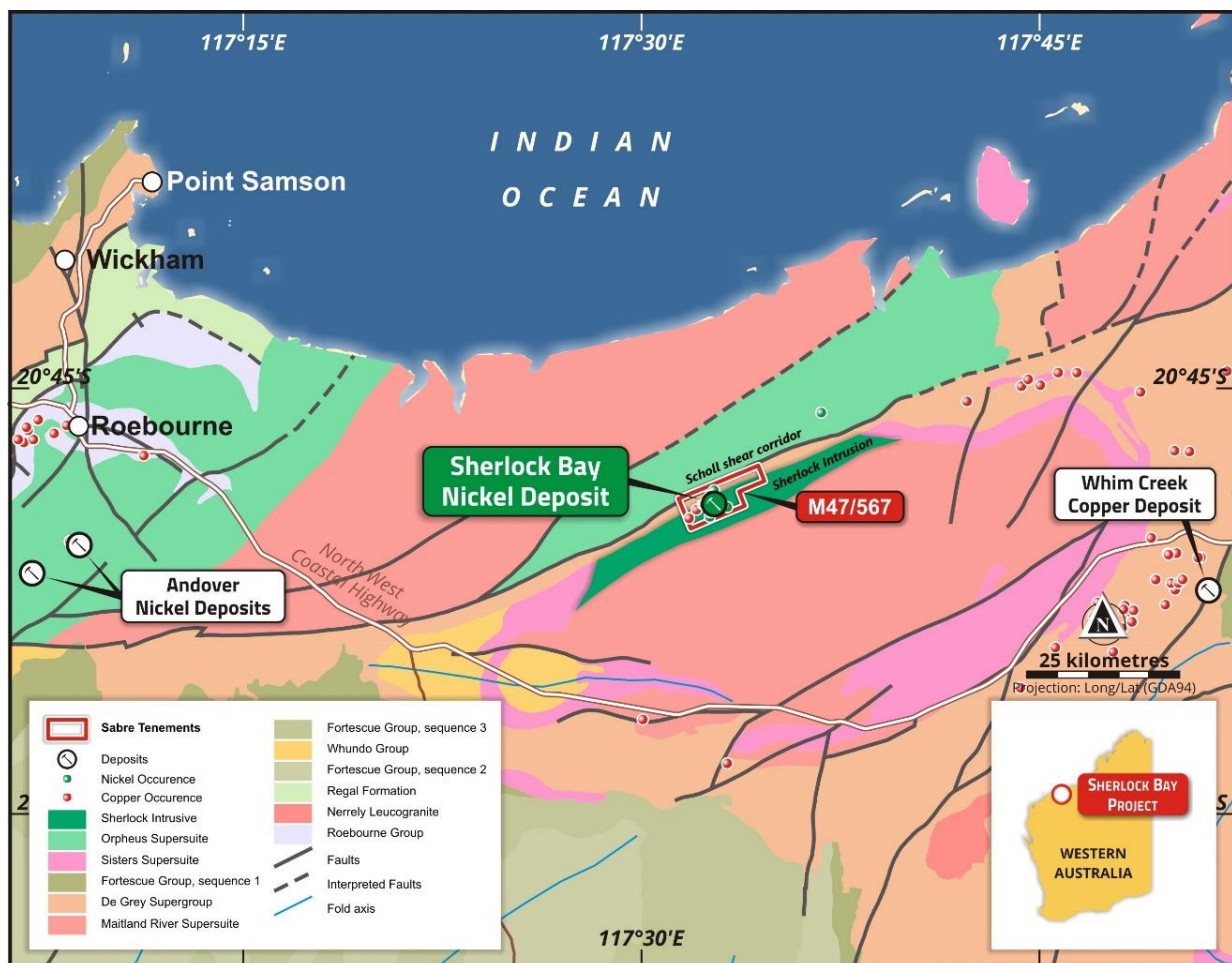
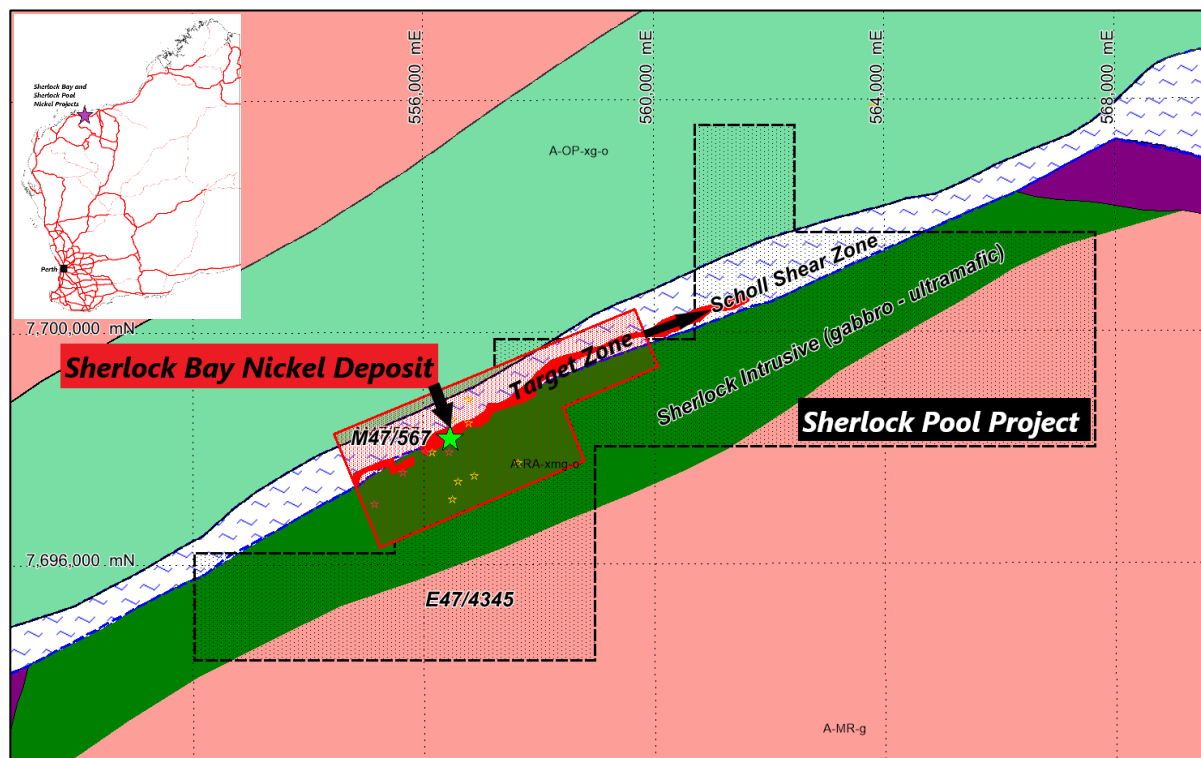

Figure 3: Sherlock Bay Nickel-Copper-Cobalt (sulphide) Project, regional geology and location plan
Figure 5: Sherlock Pool E47/4345 Location and Sherlock Bay Nickel Deposit
Re-establishment of access roads and diamond drillhole site preparation earth works will be carried out this week in preparation for the commencement of the 2,400m diamond drilling program³ to test high-grade nickel sulphide targets at the Sherlock Bay Nickel-Cobalt-Copper Project (“Sherlock Bay” or “the Project”) in Western Australia’s Pilbara region (Figure 3). High rainfall in May and follow-up rains in mid June delayed the expected start date of the program, however the Sherlock Station Manager has notified the Company that access can now be established following a site visit and inspection on Wednesday.
The exploration program will also include down-hole EM (DHEM) surveying to detect massive sulphides associated with either in-hole or off hole conductors – as successfully applied by Azure Minerals Ltd (ASX:AZS) at Andover nickel sulphide deposit, 70km west of Sherlock Bay⁶ (Figure 3).
Previous detailed magnetics and EM surveys at Sherlock Bay identified potential extensions of the Sherlock Bay mineralised horizon along strike from the Sherlock Bay nickel sulphide deposit that continue onto the Sherlock Pool tenement (see location, Figure 5).
The Company's model for the Sherlock Bay nickel sulphide mineralisation is that it is mafic intrusive related, even though the mineralised horizon occurs in the footwall – to the NW of the Sherlock mafic intrusive (see Figure 5). The Andover high-grade nickel sulphide discovery of Azure Minerals Ltd (ASX:AZS) 70km west of Sherlock Bay (Figure 3), that has a recently announced Mineral Resource of **4.6Mt @ 1.11% Ni, 0.47% Cu, 0.05% Co**⁶, is hosted by a similar mafic intrusion to the Sherlock Intrusive.
Previous geophysics, including magnetics, EM and drilling at Sherlock Bay has focussed on the mineralised horizon (MH) that hosts the resources at Sherlock Bay (see Figure 5). Both the MH and the Sherlock Intrusive extend from Sherlock Bay onto the Sherlock Pool tenement. In order to target massive sulphides within (e.g., Andover) and/or at the base of the Sherlock Intrusive (e.g., Nova-Bollinger) the external and internal boundaries of the intrusion and the shape of the footwall needs to be defined using detailed gravity. Gravity is able to detect density contrasts between the intrusion and surrounding lower density felsic rocks as well as internal layers. Magnetism is not as effective for this as the patterns are highly variable and it is susceptible to interference from near surface magnetic material.
A gravity survey contractor will be mobilised next week to commence the detailed gravity survey over both the Sherlock Bay and Sherlock Pool project areas (see Figure 5).
The Company's flagship project is the 70% owned **Sherlock Bay Nickel-Copper-Cobalt Project** – a significant nickel sulphide resource located on granted mining lease, M47/567, 60km east of Roebourne in the highly prospective Pilbara Region of Western Australia (Figure 3).
Sabre is also earning an 80% interest in the **Sherlock Pool** tenement, E47/4345⁵ (Figure 5), covering immediate strike extensions to the northeast and southwest of the Sherlock Bay nickel sulphide deposit⁴. Exploration will commence shortly, including a detailed gravity survey to be followed by initial drilling of magnetic and/or EM anomalies that may represent massive nickel sulphide deposits.